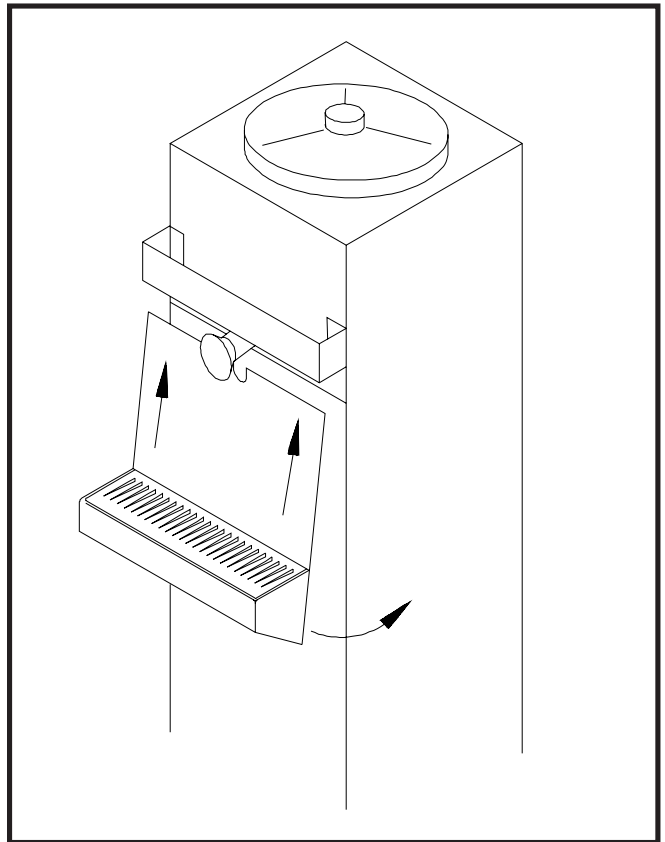

Figure 10
G. Install the sani-tray, cover and miscellaneous parts on the freezer (Fig. 10).